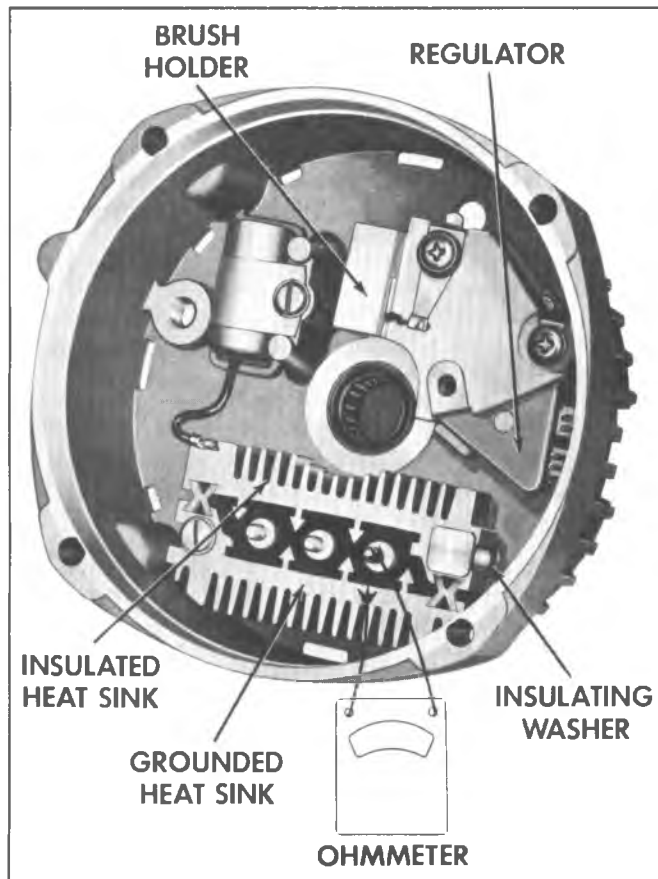

Fig. 6C-Rectifier Bridge Checks
8. Remove retaining screw and capacitor from end of frame (fig. 6C).
Rectifier Bridge Check (fig. 6C)